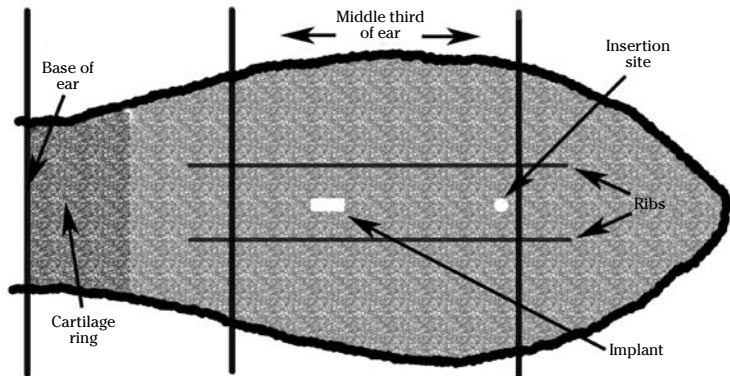

Figure 1. Proper implant site
5. Select the proper implant site on the back of the ear (Figure 1).